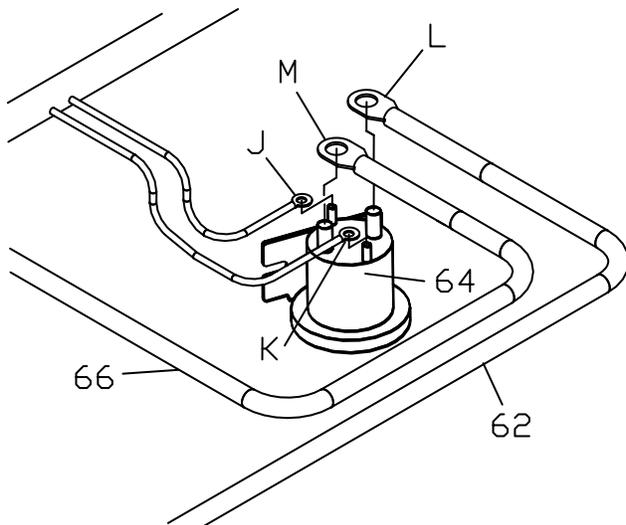

Figure 21. Solenoid Connections. G10145
21. Attach Power Unit Solenoid (64) securely inside the engine compartment. The Power Unit Solenoid should be mounted in the upright position as illustrated in Figure 21.